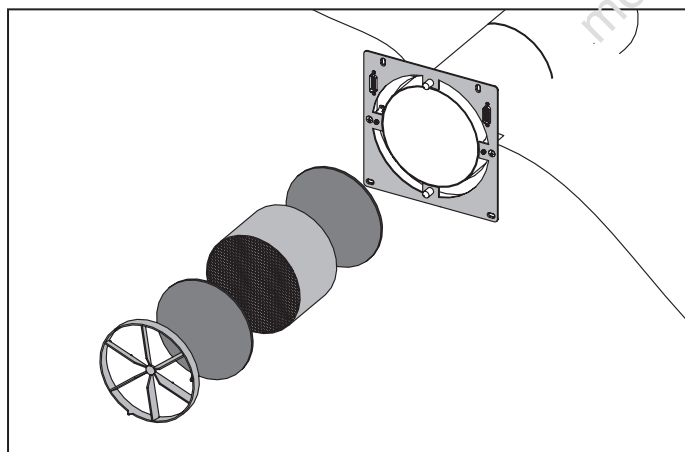

Fig. 24. Removal of the unit components
- Pull out the air flow rectifier. Pull the cord to remove heat exchanger with front and back filters. Do not let the heat exchanger to fall down, fig. 24. Do not let the heat exchanger fall down. Pull out the filter located after the heat exchanger.